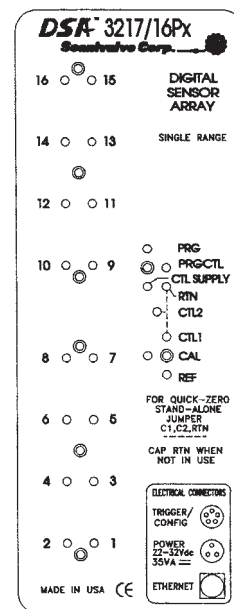

FIGURE 2.1 - DSA3217/16PX TOP PANEL
The basic DSA3217/16Px module provides 16 channels of the same ‘gauge’ pressure range sensors. These 16 pressure transducers are configured into two (2) groups of eight (8) each. Each group of eight (8) transducers shares a common calibration valve and a common reference manifold. Single range modules tie the two reference manifolds together and the two calibration valves to provide the user with a single reference and a single calibration port to connect to. Figure 2.1 depicts the top panel of a standard DSA3217/16Px.